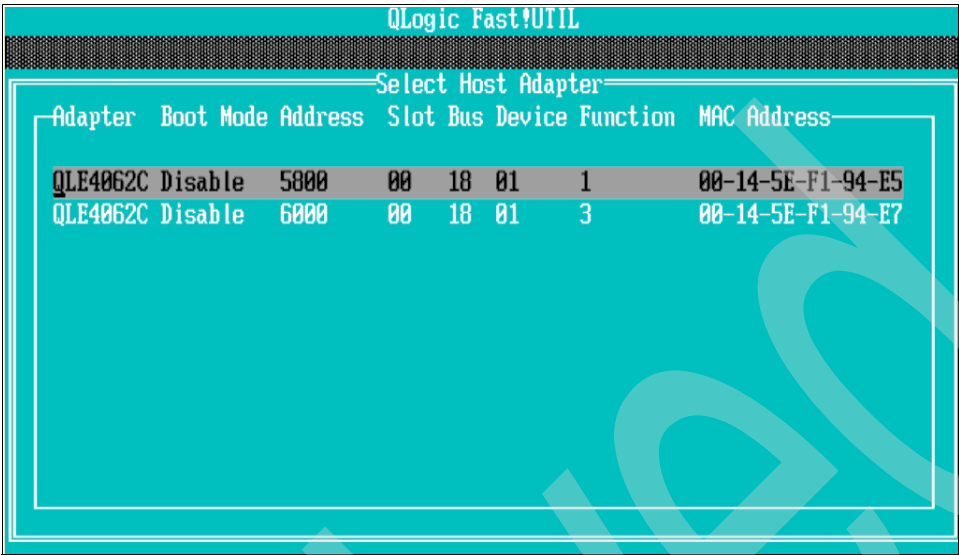

Figure 5-19 QLogic Fast!UTIL menu window
2. After pressing the Ctrl+Q keys, you enter the QLogic iSCSI Card BIOS utility. You see a window similar to Figure 5-19.